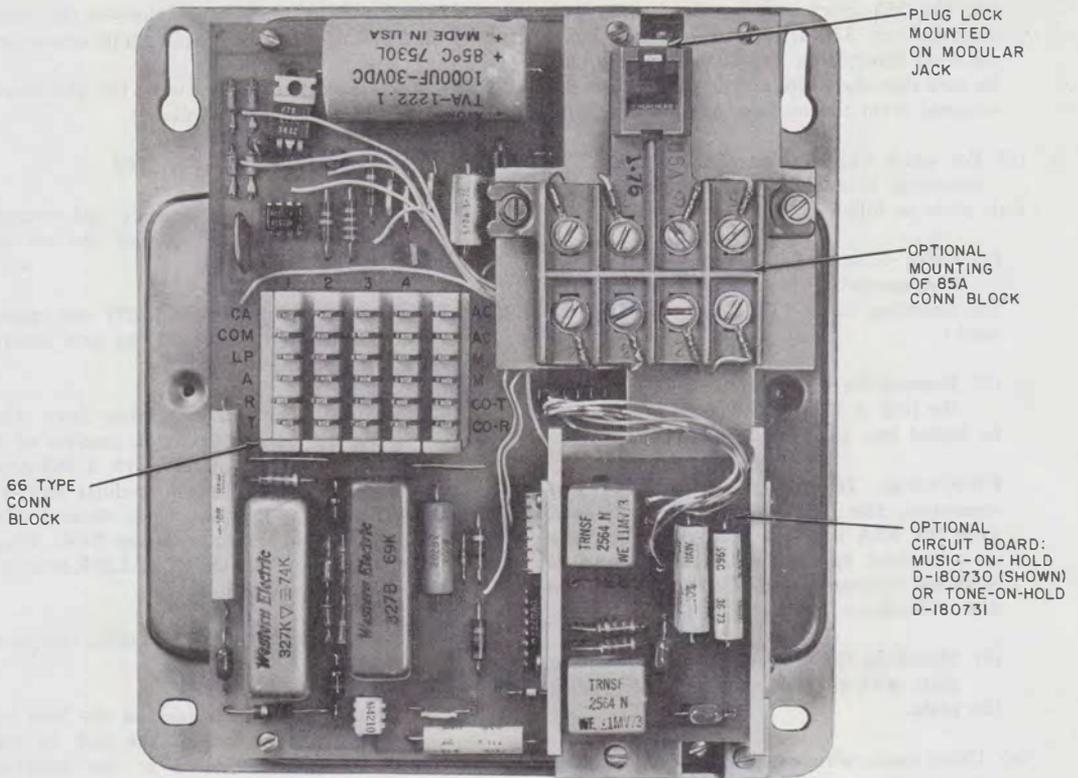

Fig. 35—30A Apparatus Unit
3.51 The method of installation and connection of this feature depends on the type of telephone with which the line is used. In all cases, a 30A apparatus unit (Fig. 35) must be installed for each personal line; a single 30A can serve a maximum of 16 stations on the same line if the restrictions of Fig. 10 are observed.
- (b) Using inside wire, connect the AC terminals of the 66-type block on the 30A (Fig. 35, 36, and 39) to the 95B1 power unit supplied with it. **Do not plug the 95B1 into its assigned ac outlet until all installation is complete.**
set, the 86A block can be disassembled as described in 3.53(d)(1) and its 85A block mounted directly on the 30A unit (Fig. 35). Be sure that the white plastic plug lock is not removed from the modular jack of the 85A.
- (f) If music-on-hold is to be provided on the personal line, install the circuit board from a D-180730 kit of parts in the slots on the front of the 30A unit (Fig. 35) and plug in its connector. Using inside wire, connect the two M terminals on the 66-type block to terminals 3 and 4 of the same 33A coupler used with the common CO/PBX lines (Fig. 22, 36, and 39).
a D-180731 kit of parts in the slots on the front of the 30A unit (Fig. 35) and plug in its connector.